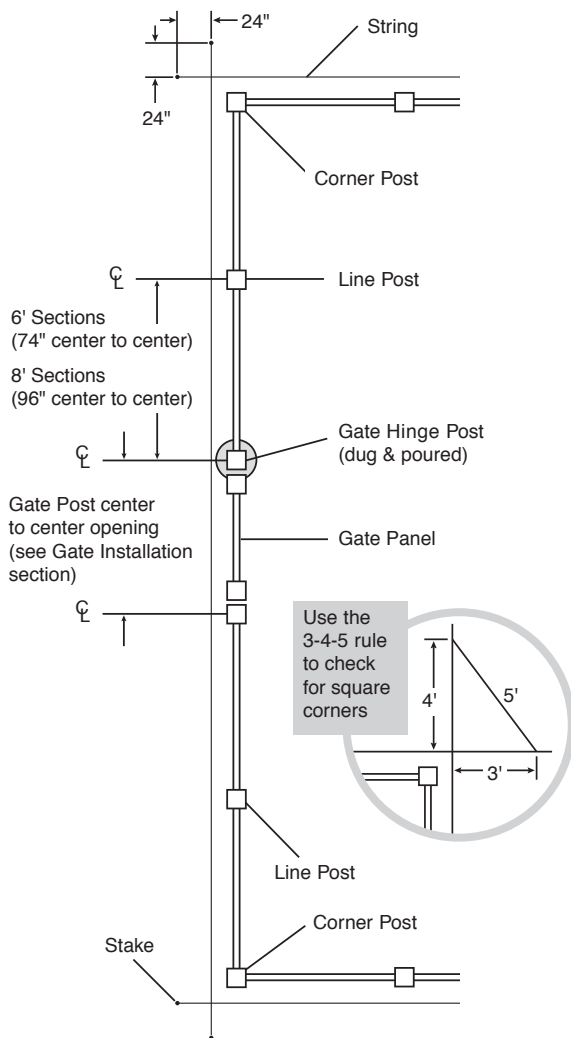

Figure 1
*Be sure to extend the string about 24" beyond the property line (Fig. 1).*